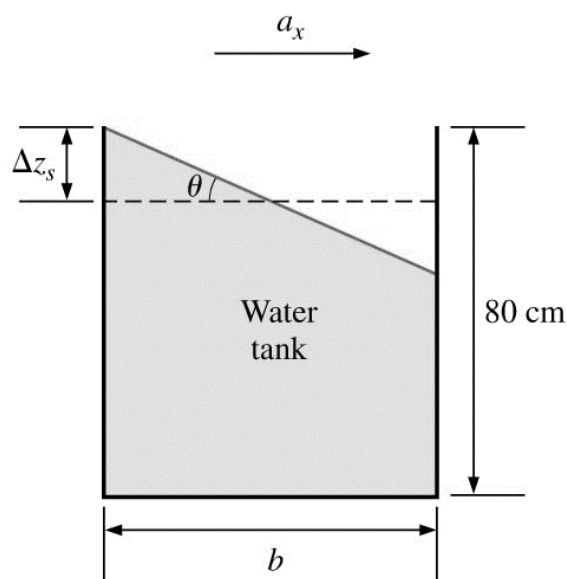

Figure 4
- (c) An 80 cm high aquarium with cross-section $2\text{ m} \times 0.6\text{ m}$ is partially filled with water as shown in **Figure 4**. The aquarium is to be transported on the back of a truck. The truck accelerates from 0 to 90 km/h in 10s. Assume that acceleration remains constant and horizontal. If it is desired that no water spills during acceleration, analyze the allowable initial water height in the tank.